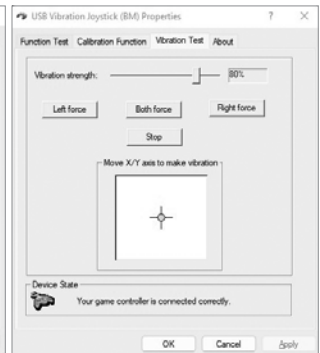

Fig. 11
• In the “Vibration Test” tab, you can check the operation of both vibrators together by pressing the “Both force” button; or separately, by pressing the “Left force” and “Right force” buttons (Fig. 11). To stop the test, press the “Stop” button. Moving the cursor in the row “Vibration strength” we can increase or decrease the force of vibration. To save the settings, click “Apply” or “OK” in the bottom line of this window.